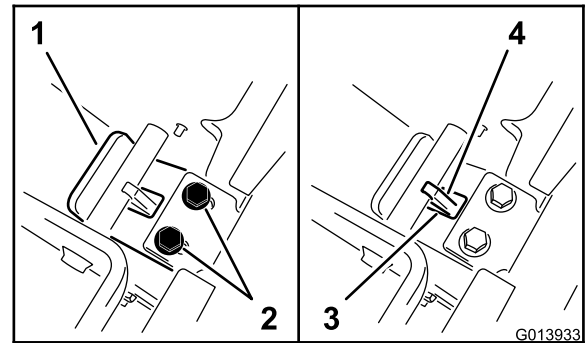

Figure 10
5. While maintaining the pressure on the back plate, slide the tongue toward you until the lip of the tongue plate contacts the crossbar (Figure 10).